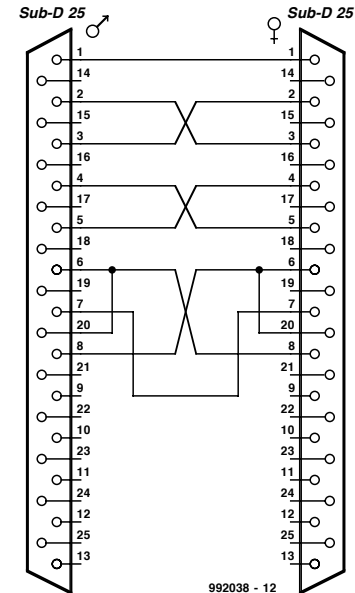

Figure 2. Null modem adapter.
- X mini gender changer, 25-way Sub-D socket/plug, null modem (Figure 2);